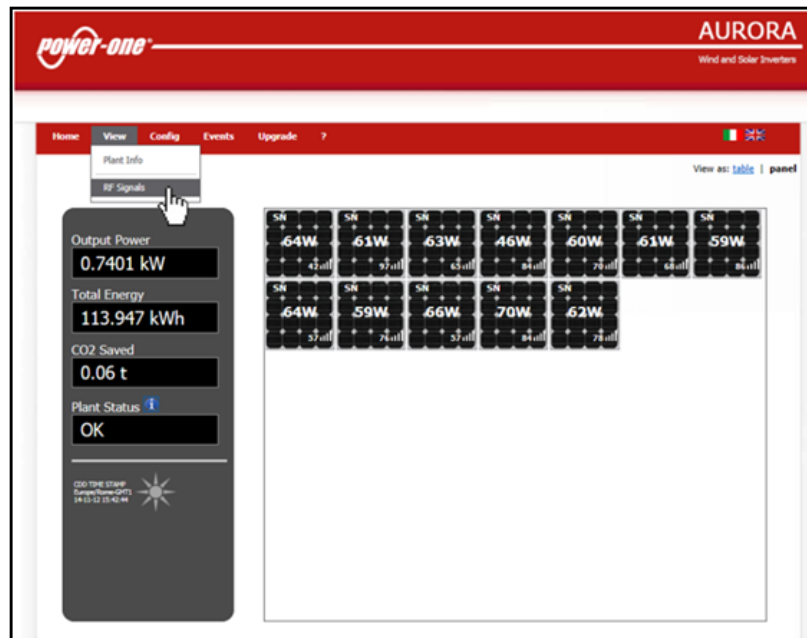

Figure 3-2 CDD webservice home page "View" → "RF Signals" options
2. This leads to the CDD web server home page which displays all the MICRO inverters in the system and their current energy output. Click on "View" and "RF Signals" as shown in Figure 3-2.